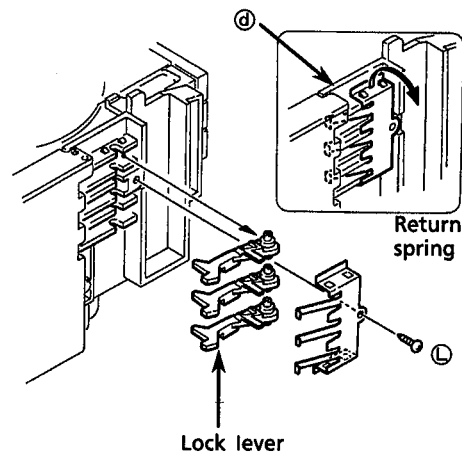
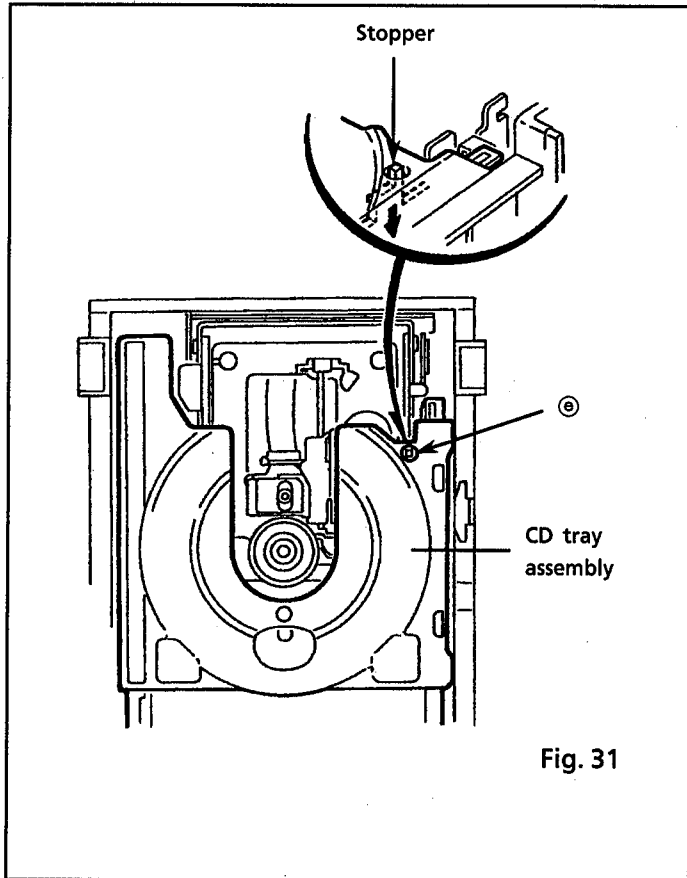

Fig.30
Fig. 31
7. Remove a screw ⑥which secures the return spring and lock levers from the chassis ass'y.(See Fig. 30.)
8. Remove 2 palls ⑦ which slightly secure the return spring to remove it.
10. Check that the lifter unit stopper is inserted into hole ⑧ located on CD tray ass'y. (See Fig. 31.)